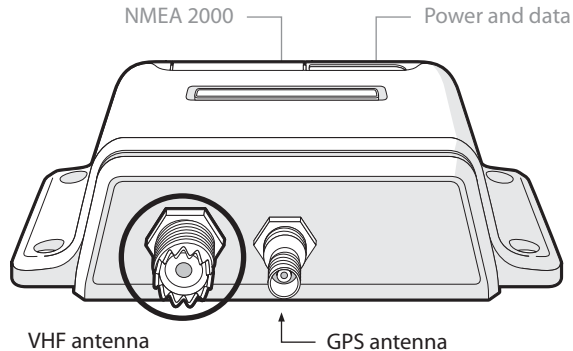

Figure 8 Position of the VHF antenna connector
1. Route the cable from the VHF antenna to the AIS transceiver, and connect it to the VHF connector on the AIS transceiver as shown in Figure 8.